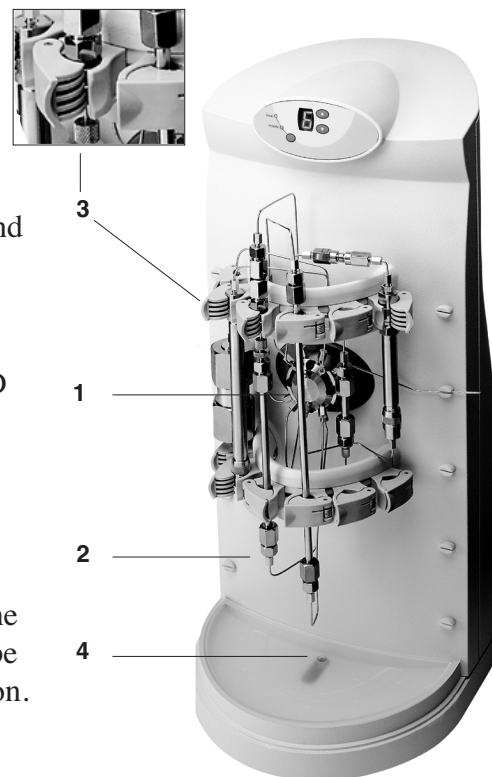

Fig. 2. Column Selector with cover removed.
2. Figure 2 shows a front view of the 6-column selector with the cover removed.
- The valve (1) is located to provide easy access to the liquid-end should servicing be required. The unit is supplied with fittings and tubing (2).
- The column clips (3) are spring loaded and hold columns from 3.2-25.4 mm (1/8-1") OD firmly in place. The Column Selector can accommodate both long and short columns, 5-35 cm (2-13.8").
- A built-in drip tray (4) safely contains any solvent spills. The drain tube connected to the hole drains solvents to waste. The tube can be adjusted to terminate to waste in any direction.